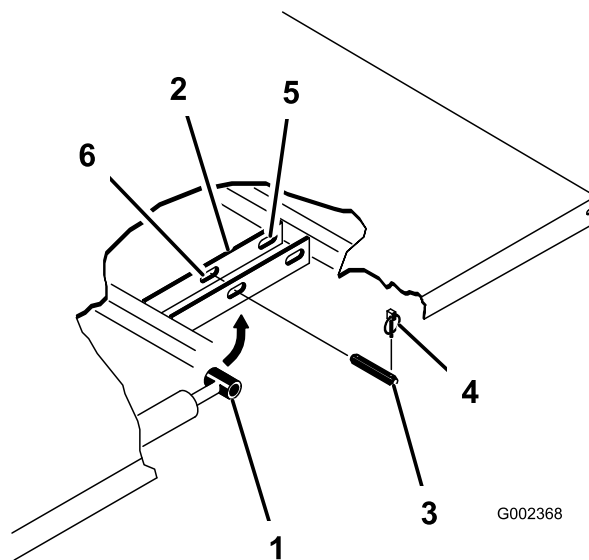

Figure 3
4. Remove the lynch pins from the outer ends of the cylinder rod clevis pins (Figure 3).
5. Remove the clevis pins securing the cylinder rod ends to the bed mounting plates by pushing the pins toward the centerline of the machine (Figure 3).